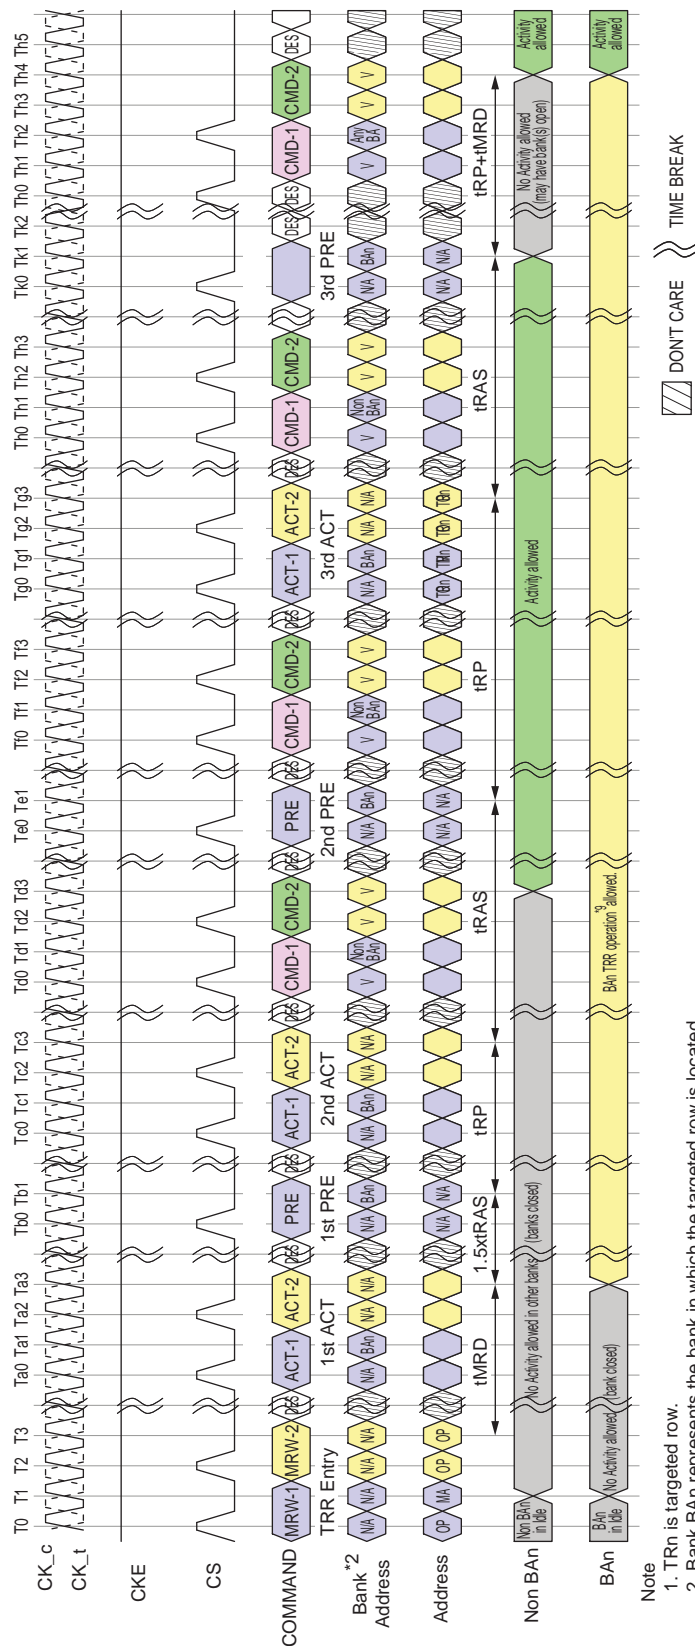

Figure 4.129 — TRR Mode
1. The timing diagram in Figure 4.129 depicts TRR mode. The following steps must be performed when TRR mode is enabled. This mode requires all three ACT ($ACT1$, $ACT2$ and $ACT3$) and three corresponding PRE commands ($PRE1$, $PRE2$ and $PRE3$) to complete TRR mode. A Precharge All ($PREA$) commands issued while LPDDR4 SDRAM is in TRR mode will also perform precharge to BAn and counts towards a $PREn$ command.